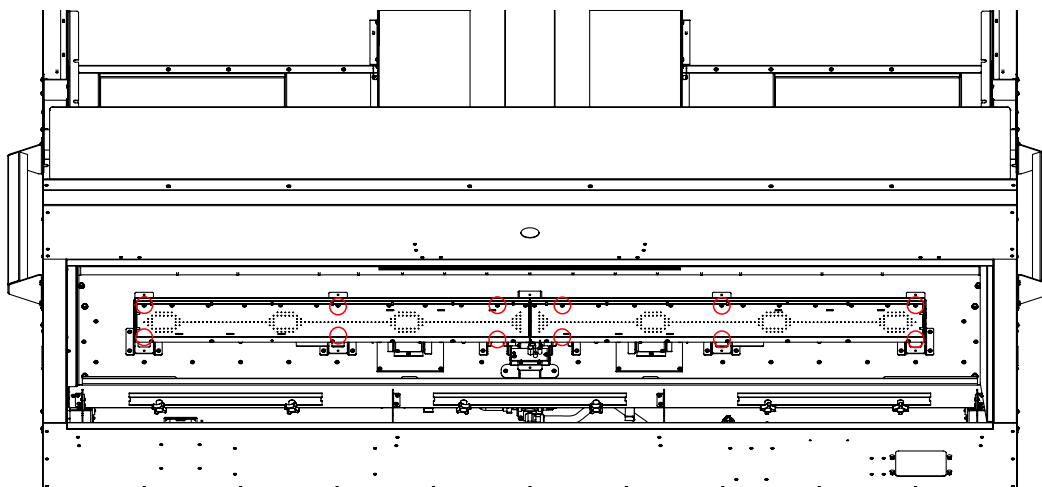

Figure 22: Removing Burner
6. Remove the six T-20 screws securing the each side of burner pan as shown in Figure 22; do NOT remove the other T-20 screws. Once the specified screws are removed slide the left burner to the left and lift out to remove. Slide the right burner to right and lift out to remove.